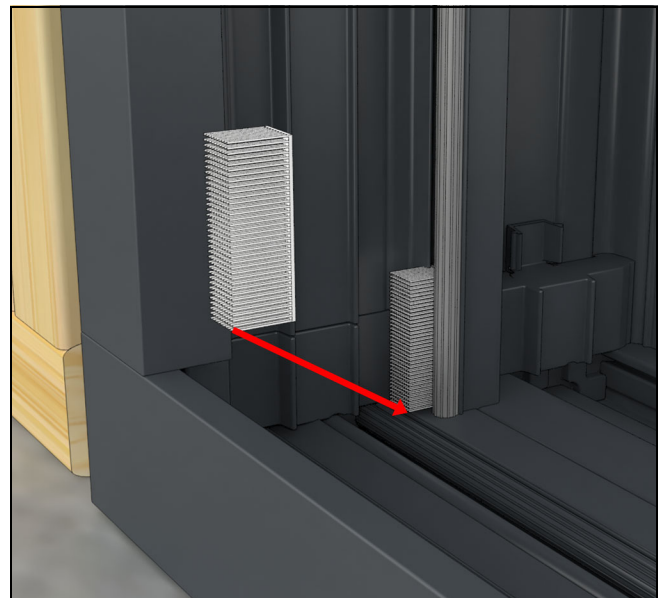

Figure 72
12. Place another dust block at the bottom of the jamb behind the jamb weather strip. See Figure 72.